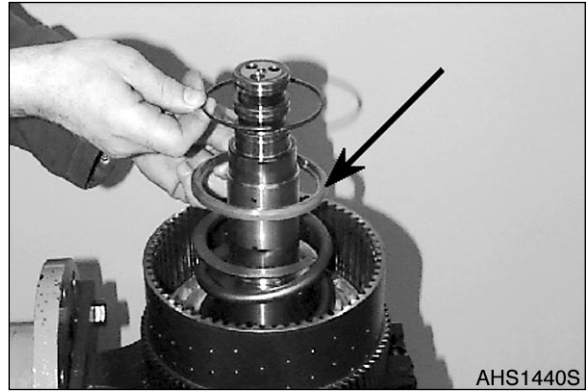

Figure 184
10. Lay guide ring, with the chamfer (Figure 184) facing upward, over the compression spring and line up the snap ring.